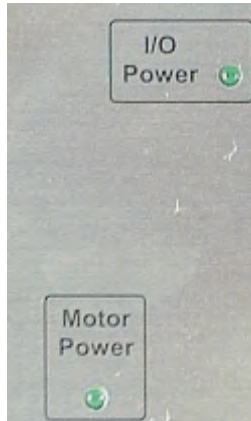

Figure 2-13. I/O Power and Motor Power LEDs
After wiring the system, turn on the 24 VDC power supply and verify that the two (2) Status LEDs are on (see Figure 2-13).